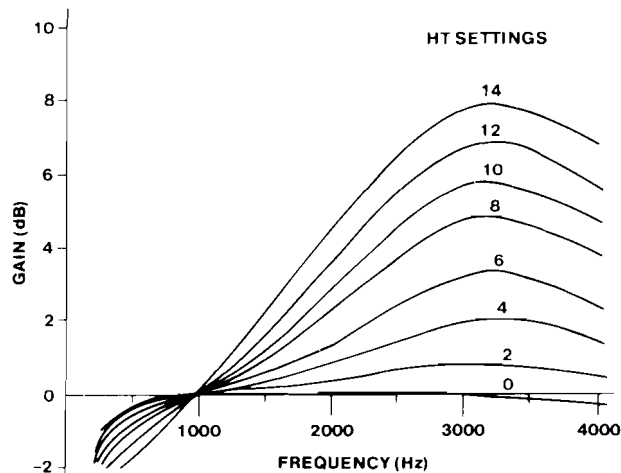
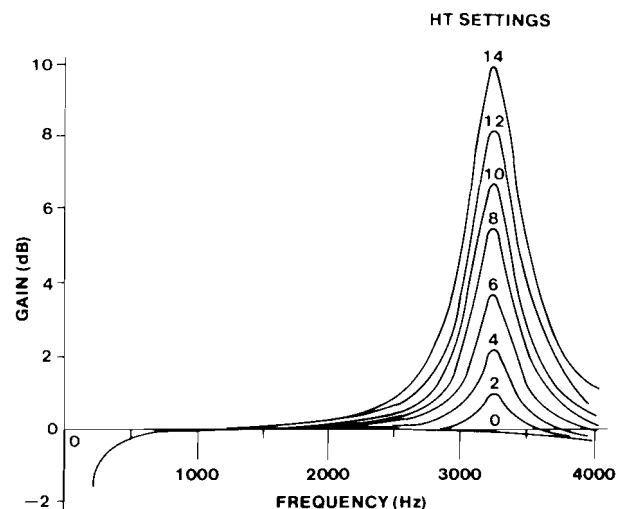

figure 4. Typical response curves for 9908B in bump mode, BW switch = 14
figure 5. Typical response curves for 9908B in bump mode, BW switch = 3
1.05 Figures 4 and 5 show typical response curves for the 9908B equalizer in the bump mode. Figure 4 shows the curves representing various height settings versus a wide bandwidth setting, while figure 5 shows the curves representing various height settings versus a narrow bandwidth setting. For comparison purposes, all frequency response curves in figures 4 and 5 are drawn with the same 0dB-gain reference point (1004Hz). Actually, all of these curves except those with an HT switch setting of 1 or 0 and/or with a BW switch setting of 5 or less are raised above the 0dB level by as much as 3.9dB. The exact amount by which a particular curve is raised depends upon the HT and BW switch settings selected. These amounts are listed in table 2.